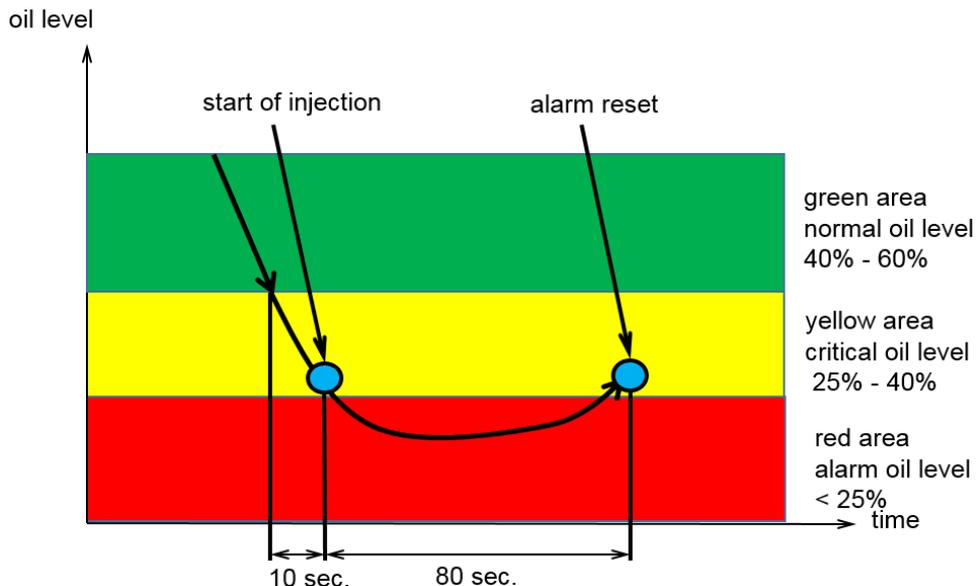

Fig. 2: Logic of filling – Delay time for alarm output
3. Oil Level Controller with hole-flange adapter: Place O-ring in adapter (Fig. 2). Use original screws of the compressor. Observe the torques specified by the compressor manufacturer.